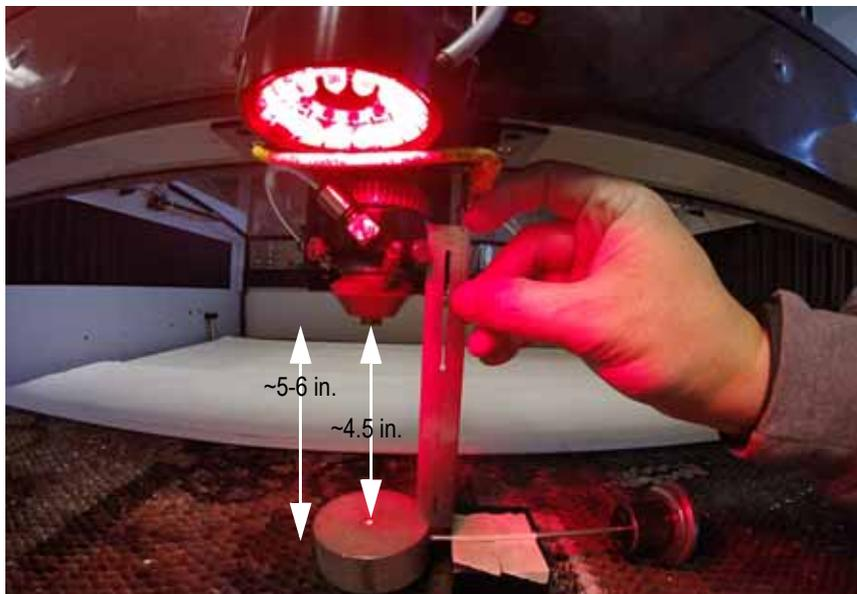

Figure 7-22. Power Test Near Focus Head Assembly
4. Place the power meter below the focus head assembly (see Figure 7-22). Use the power meter test stand or a piece of material to hold the meter in place. Use the aiming beam to center the power meter with respect to the beam path.